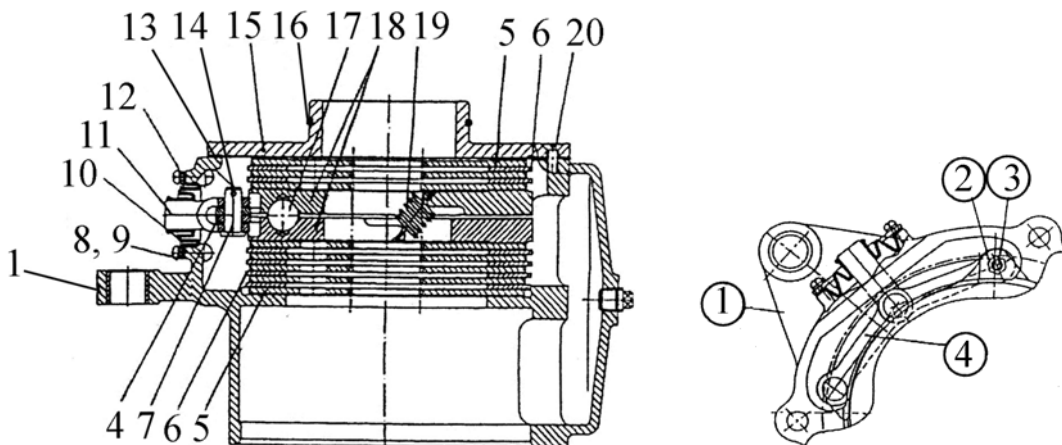
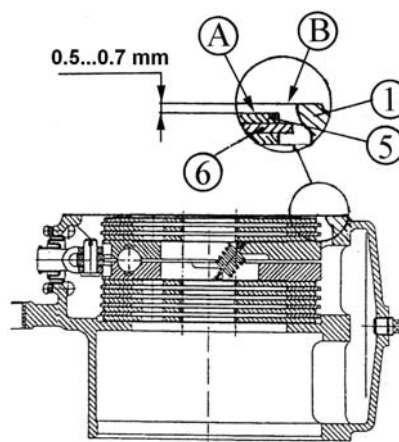

Figure 4.147
Figure 4.148
- m)) disassembly brake (Figure 4.147), by performing the following operations:
1) before installing cup cover 15 (Figure 4.147) check recession of upper surface «A» (Figure 4.148) of brake disk 5 in relation to surface «B» of body 1, which must be within 0.50...0.70 mm;